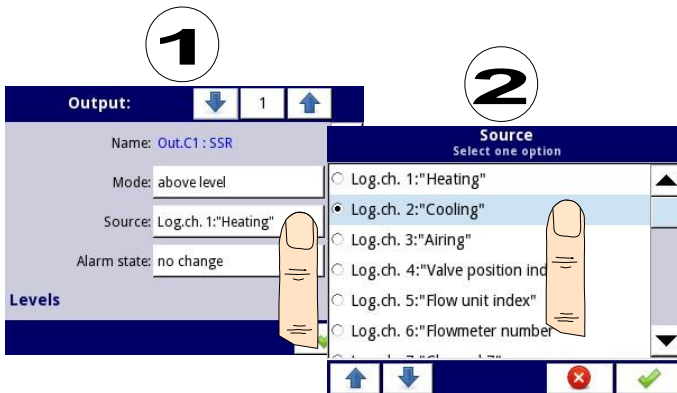

Fig. 7.85. Data source settings for built-in output (for SSR output module)
- **Source** – this parameter contains a list of logical channels (up to 60), where the selected logical channel will be a data source for this built-in output (see **Fig. 7.85**).
- **Source** - this parameter contains a list of logical channels (up to 60), where the selected logical channel will be a data source for this built-in output (see **Fig. 7.85**).
logical channel will be a data source for this built-in output (see **Fig. 7.85**),